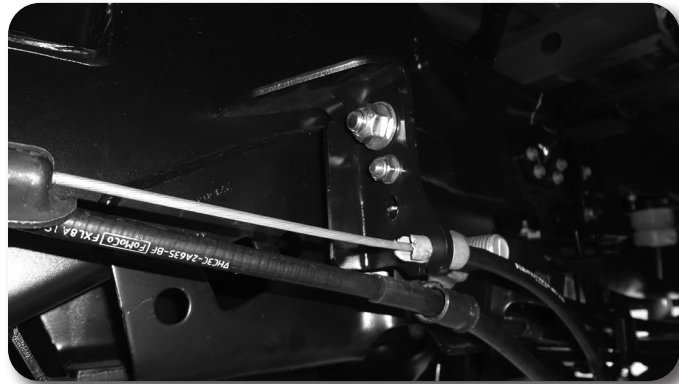

Figure 3
19. Install the new E-brake cable bracket with the provided 1/2" hardware and 5/16" hardware as shown in **Figure 3**. The smaller driver side E-brake cable bracket will be installed in the same position as it was from the factory, but attached with the 5/16" hardware.